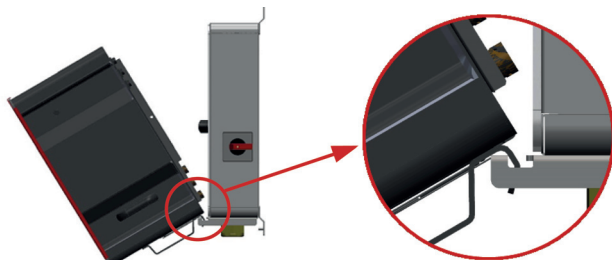

Fig. 16: Hooking PowerUnit onto ConnectionBox
2. Carefully insert the PowerUnit into the device holder of the ConnectionBox as seen in figure 16.